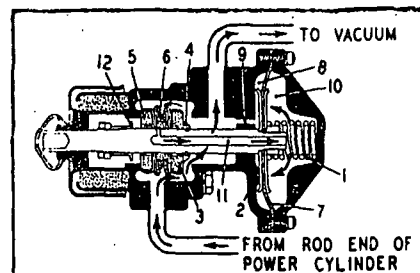
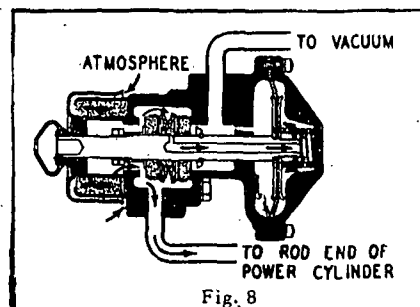

Fig. 7
Fig. 8
In the vacuum suspended type of power brake equipment, vacuum is present on both sides of the power cylinder piston when the brakes are in the released position, because of the open vacuum passage through the operating valve "A" (Fig. 7). When the brake pedal is depressed the valve rod "R" is pulled outward. Since valve operating lever (N) is pivoted to the valve linkage, the valve stem is pushed inward, thus closing off the vacuum passage and opening the atmospheric port of the valve, establishing a direct connection between the air cleaner on the valve and the piston rod end of the power cylinder (Fig. 8). With this admittance of air at atmospheric pressure to the rod end of the power cylinder, the piston moves rearward in the power
RELEASE. In the release position, the return spring (1) holds the valve stem and diaphragm plate against release stops (2) in the valve body. The vacuum valve (3) is held fully open by the stop-washer (4) on the valve stem. This connects the control end of the power cylinder to vacuum. The atmospheric valve (5) is held in the closed position by the spring (6). Both valves are free to slide on the valve stem. Reactionary diaphragm (7) is balanced in vacuum. Chamber (8) is connected to vacuum through drilled hole (9) in the valve body. Chamber (10) is open to vacuum through drilled hole (11) in the valve stem. (Fig. 7)